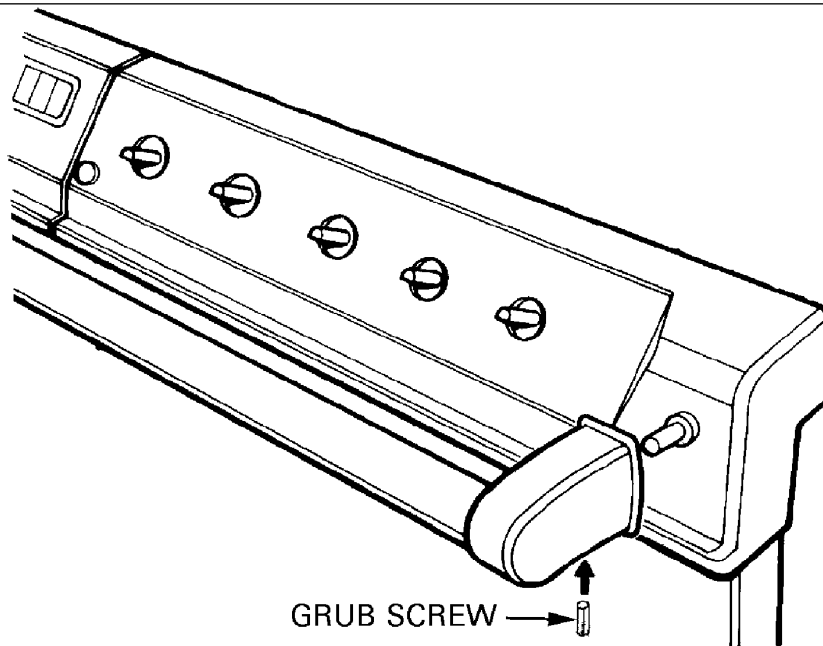

Fig. 22
1. Loosen 2 grub screws, one at each end of hand rail (See Fig. 22) using 2 1/2 mm socket key.